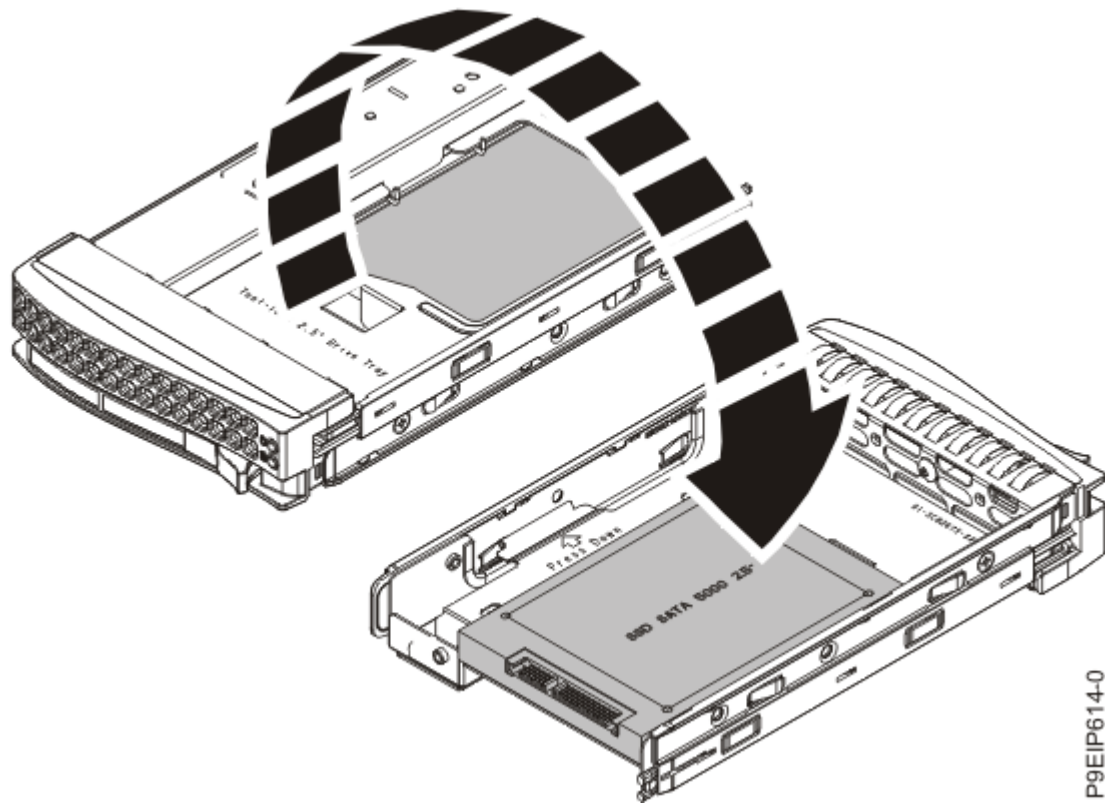

Figure 9. Turning the 2.5-inch tray upside-down
- a. Turn the tray upside down as shown in Figure 9 on page 14.